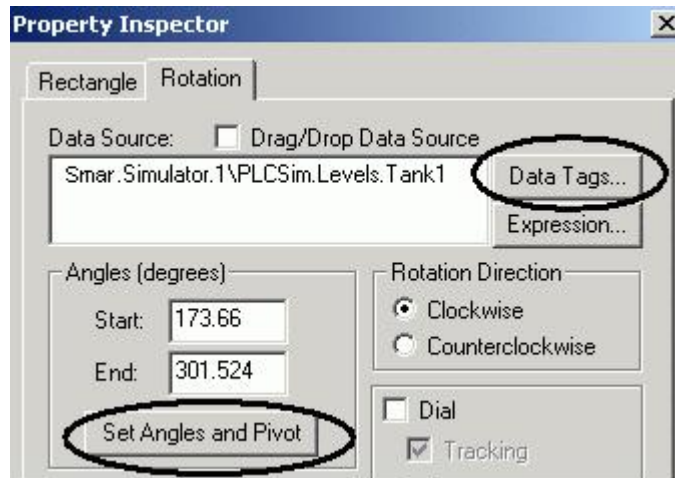

Figure 5.21. Setting up a Rotation Dynamic
3. The **Property Inspector** for the **Rotation/Dial** dynamic will appear, as shown in **Figure 5.21**. Note that the **Rectangle** tab refers to the visible object to which this dynamic is attached. Setting up the rotation dynamic is a simple process:
5. Next the Ending Angle is defined. Click and drag the rectangle in Figure 5.21 B to the end of the meter marks, as shown in **Figure 5.22 C**.